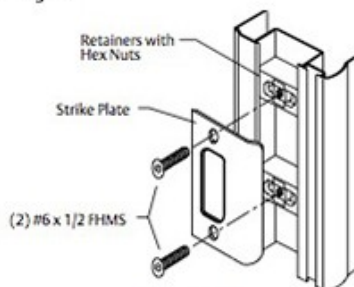

Figure 4.
Fasten latch bolt and deadbolt strike plates (those furnished with the locksets) to the retainers with the (2) #6 x 1/2" flat head machine screws provided. Strike plates are adjustable vertically for centerline height and horizontally for proper latching position. See fig. 4.